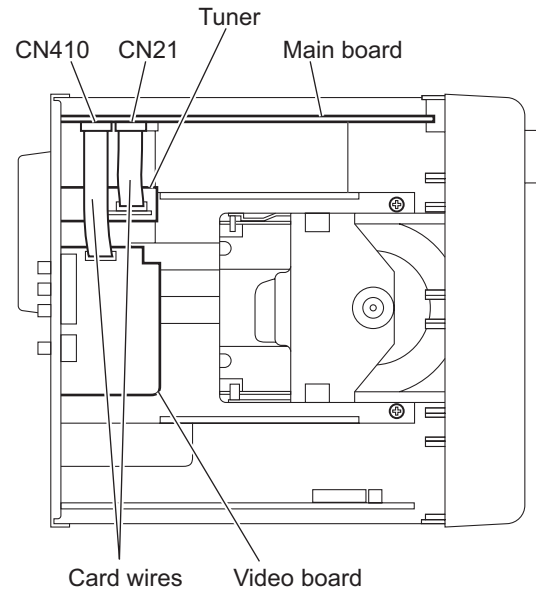

Fig.8
3.1.3 Removing the tuner (See Figs.8 and 9.)
- (1) From the top side of the main body, disconnect the card wire from the connector CN21 on the main board. (See Fig.8.)
3.1.4 Removing the video board (See Figs.8 and 9.)
- (1) From the top side of the main body, disconnect the card wire from the connector CN410 on the main board. (See Fig.8.)
(See Figs.8 to 11)
Remove the tuner and video board as required. (See Figs.8 and 9.)